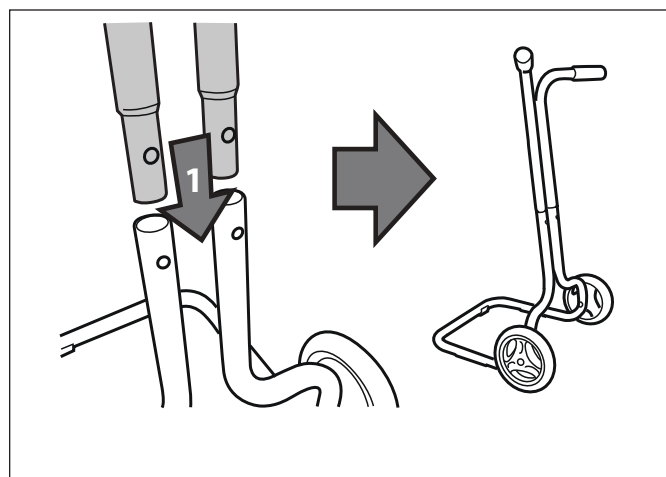

Figure 2. Install the Handles
1. Insert the upper tubes (handles) into the bottom tubes on the cart as shown in Figure 2. Make sure the upper tubes (handles) are in the proper orientation and align the screw holes.